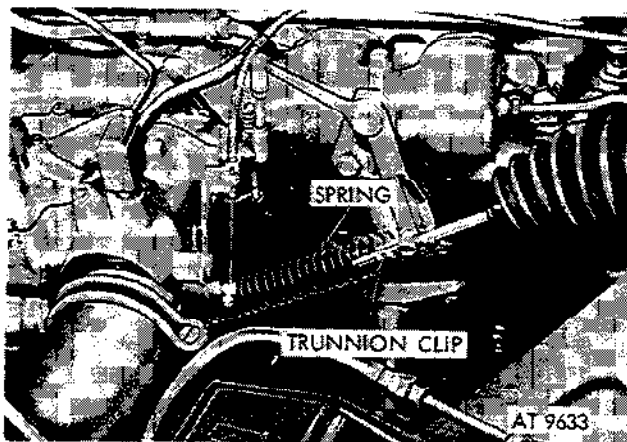

Figure 2-99. Remove spring and trunnion clip.
(1) Remove accelerator pedal return spring and trunion retaining clip (fig. 2-99).
c. *Adjustment.* Adjust threaded trunion on accelerator pedal rod (fig. 2-99) to obtain wide open throttle at carburetor with $\frac{1}{4}$ inch clearance under accelerator pedal pad. Obtain the adjustment as follows: With the accelerator rod disconnected at the bellcrank, pull hand throttle out until accelerator pedal rests on floorboard. Block carburetor to full open position. Adjust threaded link to a slip fit in bellcrank. Turn link approximately one full turn to the right, and reassemble.